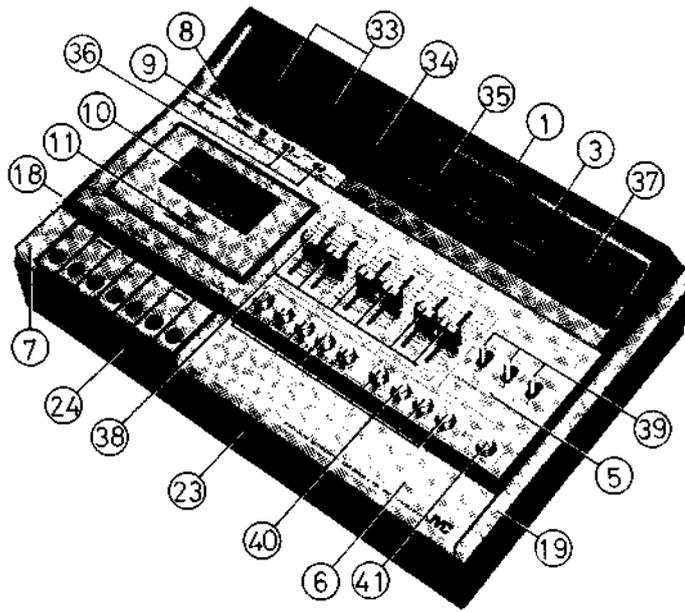

Fig. 26
**PARTS LIST OF CABINET** (Refer to Fig. 26~29)